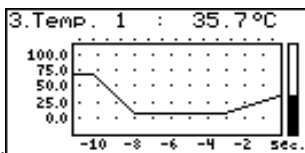

Fig. 6.9. graph mode
- "Graph" mode (Fig. 6.9) enables the momentary values or averaged values of measurements conducted for one of measurement channels to be viewed in the form of a graph.